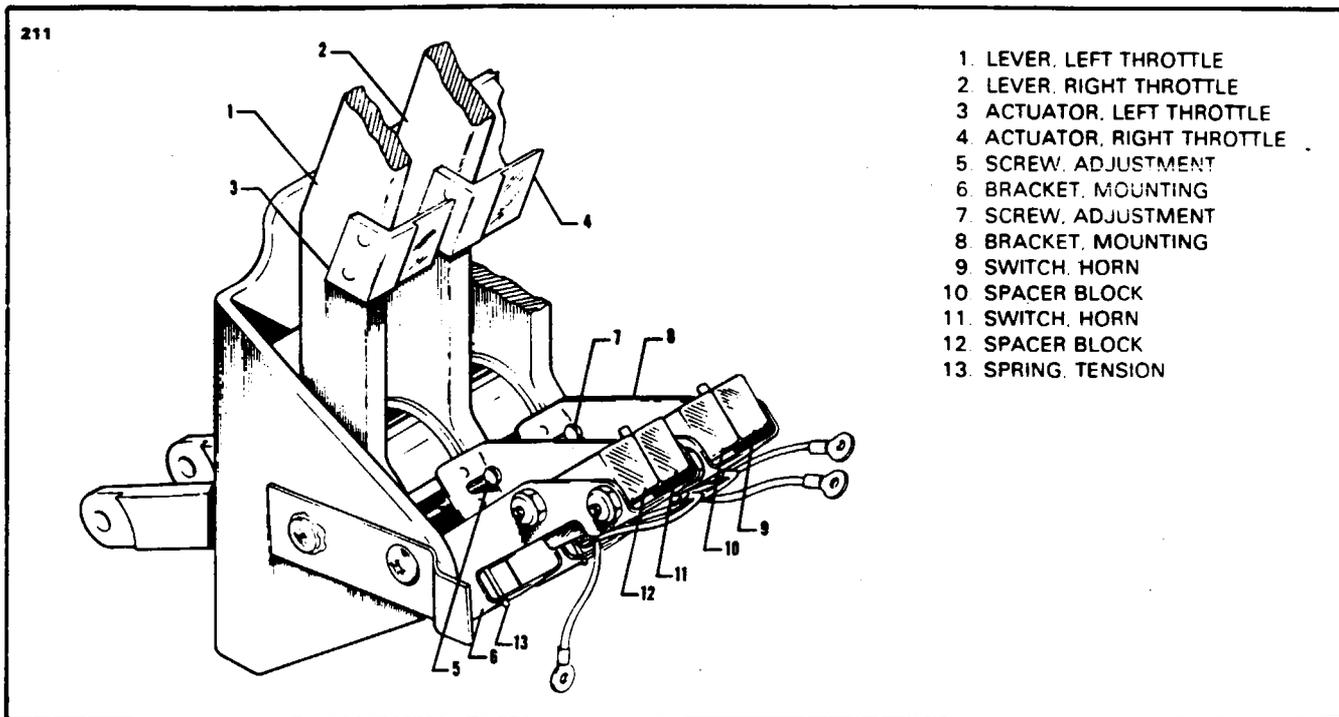

Figure 32-25. Gear Warning Switches Installation
**REMOVAL OF GEAR WARNING SWITCHES.** (Refer to Figure 32-25.)
**INSTALLATION OF GEAR WARNING SWITCHES.** (Refer to Figure 32-25.)